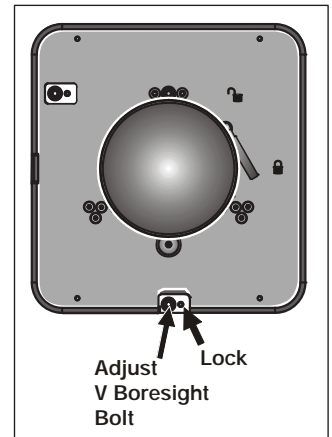

Figure 2-50 Adjusting Top/Bottom Boresight
3. Adjust the vertical boresight bolt (Figure 2-50) using one allen key to hold the bottom hex screw and another to turn the adjustment bolt above it. Adjust as necessary to direct or "aim" the lens toward the edge of the image which focused too close to the lens. When both top and bottom appear equally blurry, re-focus at the top of the screen.